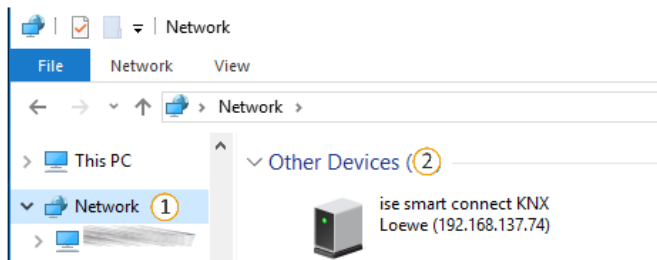

Figure 2: Calling up the device network via the network environment
- Alternatively, select the device in the network environment category <<Other devices>> (p. Figure 2 (1)): Double click on the device icon (2).